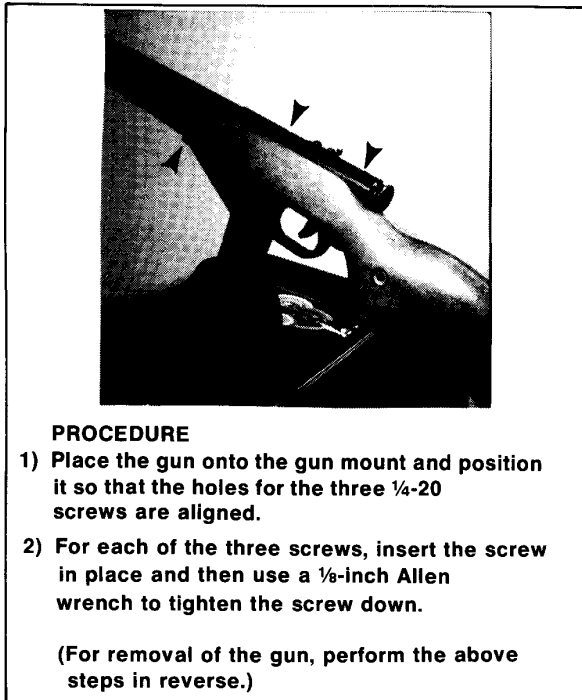

Figure 2 Bolting Gun Onto Gun Mount Cabinet
- 2) Remove the Support Tube and Plate Assemblies from their shipping container and lay them out in their approximate positions, as shown in Figure 2. It may be necessary to use a ⅝-inch Allen wrench to loosen the two clamping screws on the ends of each support tube, so that the plate portions of the assemblies will be free to move over the tubes.